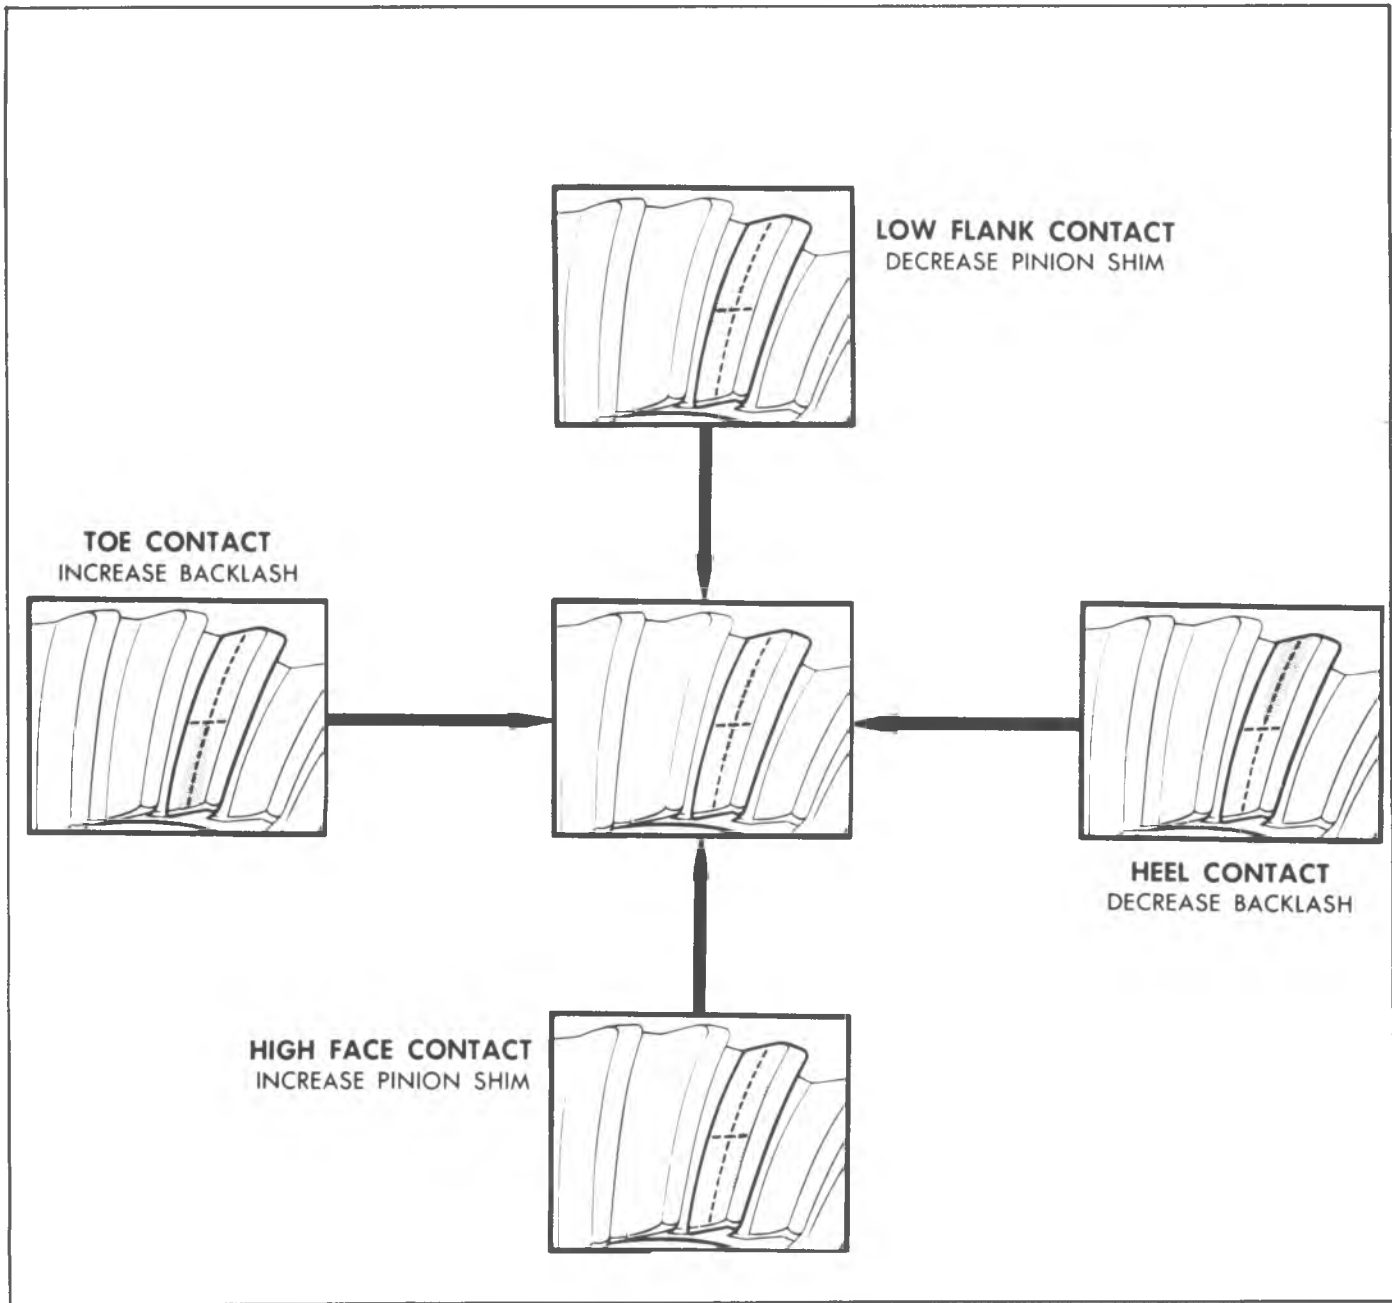

Fig. 25F—Gear Teeth Contact Pattern Check
7. Check gear tooth contact, using yellow lead method, as described earlier in "Dana 10-1/2" Ring Gear" section, under "Gear Tooth Contact Pattern Check". Refer to figure 25F.